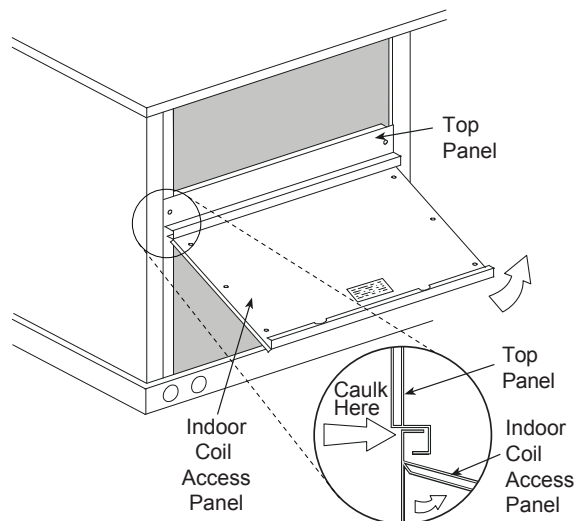

Fig. 11 — Indoor Coil Access Panel Relocation
1. The indoor coil access panel will be used as the top of the hood. Remove the screws along the sides and bottom of the indoor coil access panel. See Fig. 11.